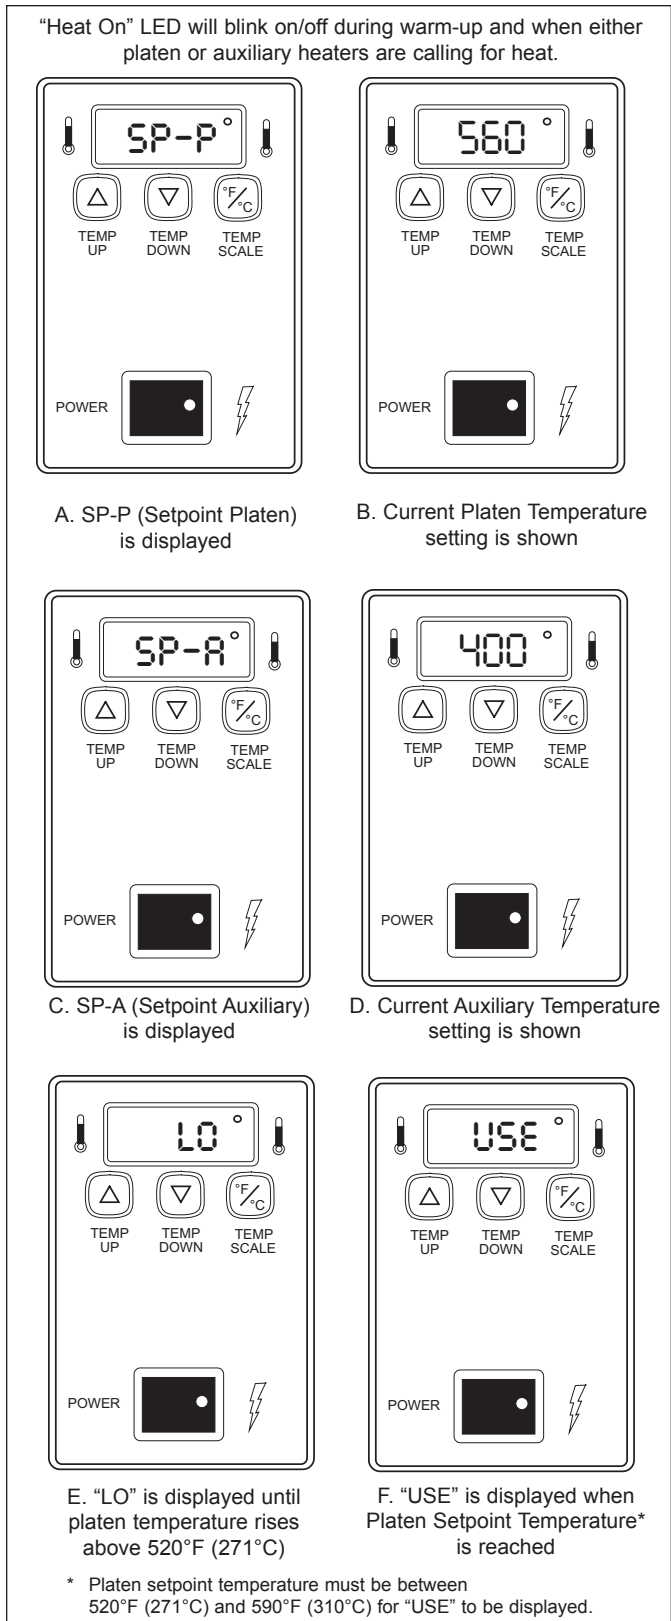

Figure 5. Temperature Power Up Sequence
1. Turn the power on and wait for the Temperature Display to finish the power up sequence (Figure 5).
1. Turn the unit on and wait for temperature display to finish the power up sequence (Figure 5, Items C & D).
2. Press and hold both TEMP UP and TEMP SCALE buttons until the display flashes the auxiliary setpoint temperature, then release (Figure 5, Item C)